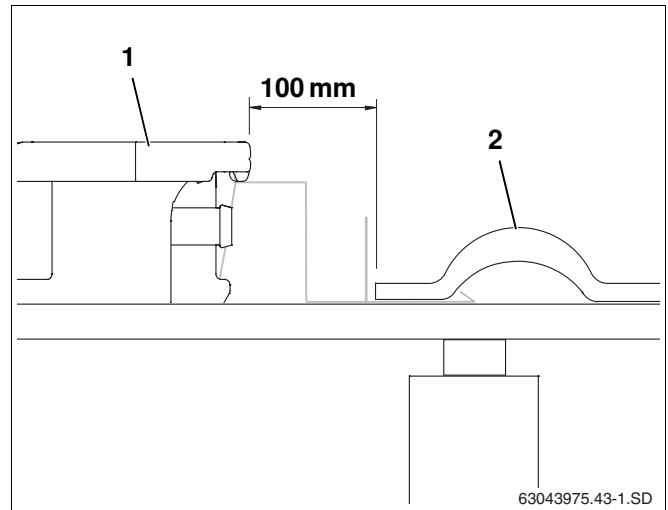

Fig. 24 Laying first collector and screwing in place
- Allow first collector (Fig. 24, **Item 1**) to slide into place in the anti-slip protection device and position 100 mm from the outer (cut if necessary) pan tile (Fig. 24, **Item 2**).